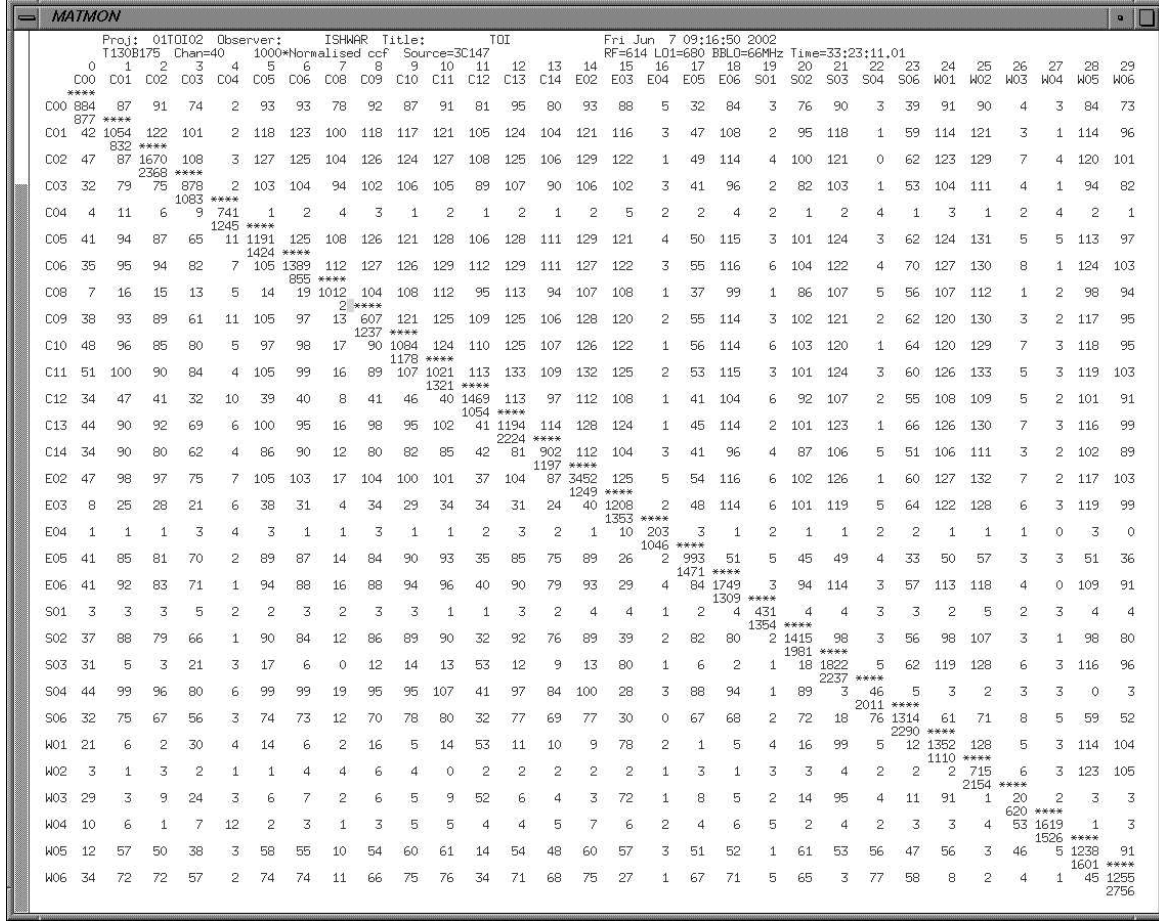

Figure 3: An example of a few unhealthy antennas.
- (b) Figure 3: Here all the antennas were used for the observations. The C04, E04, S01, W03 and W04 were down at both polarisations, whereas S04 and W02 (may be W01 as well !) was down in one polarisation only (either 130 or 175 MHz). The observations were made on source 3C147 source.